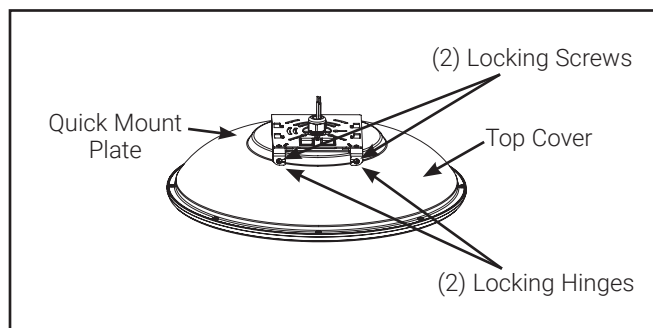

Figure 1
1. Loosen (do not remove) the two locking screws (FIG. 1). Pivot both locking hinges out to the left/right sides until they stop.